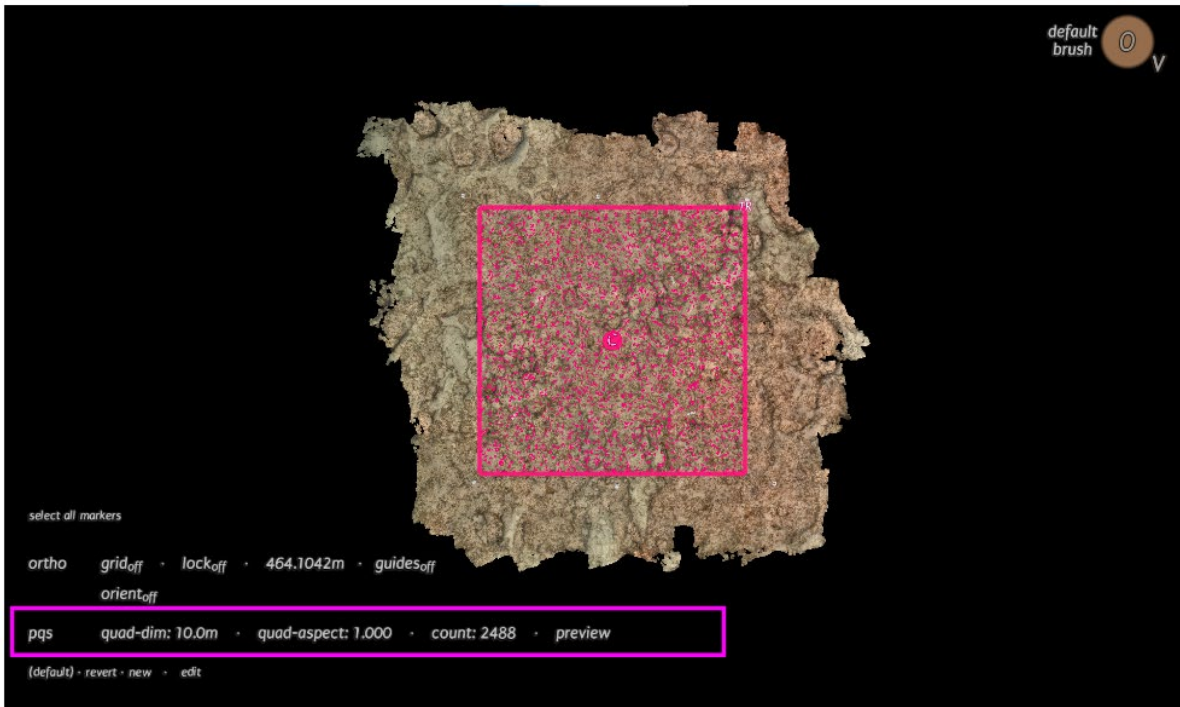

Figure 83. Example of finished quad and samples.
9. Proceed to the next step when the sampling has finished. The process is complete when the model stops moving on its own and the sampled points and quad are displayed (Figure 83).
10. Check the final sample count by clicking on `count` in the PQs menu (Figure 83). The number of points successfully sampled will often be lower than the specified count as a result of unsuccessful sampling in data-sparse regions of the model.